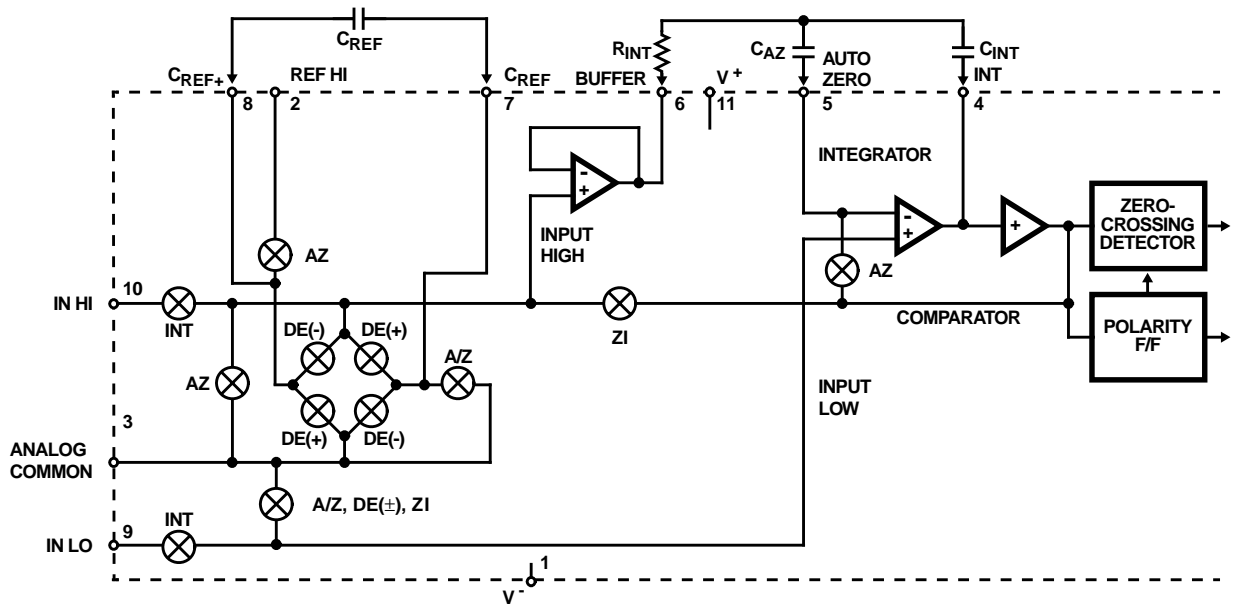

FIGURE 3. ANALOG SECTION OF ICL7135
3. Tested in $4\frac{1}{2}$ digit (20,000 count) circuit shown in Figure 3. (Clock frequency 120kHz.)
Figure 3 shows the Block Diagram of the Analog Section for the ICL7135. Each measurement cycle is divided into four phases. They are (1) auto-zero (AZ), (2) signal-integrate (INT), (3) de-integrate (DE) and (4) zero-integrator (ZI).